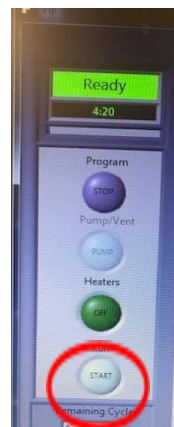

Figure 10: Recipe Start Button
9.6.6. With the sample loaded, temperatures verified, and recipe validated, you can now click the “Start” button. **Figure 10.**